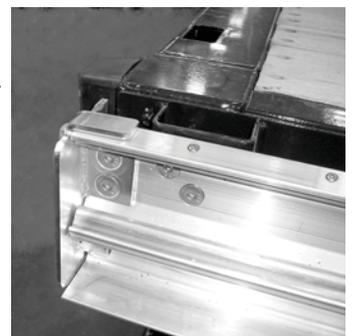

Figure 23
33) See Figure 23. Loosely install the rear rail stops using the 1/2-13 x 1 3/4" FHCS (3), 1/2 flat washer (5), and 1/2-13 nylon hex nut (4). Make sure the cap screws are flush or slightly below the surface of the steel plate. The rail stops do not need to be securely tightened at this time; the installation of other Conestoga Express components requires the stops to be removed.